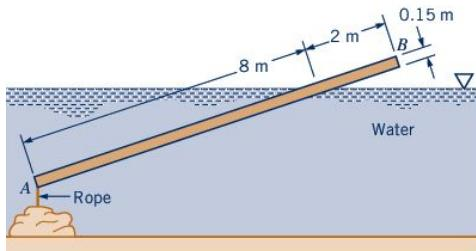

Figure 1: see problem 1
**Problem:** The homogeneous timber  $AB$  in Figure 1 has a cross section of  $0.15\text{ m}$  by  $0.35\text{ m}$ . Determine the specific weight of the timber and the tension in the rope.